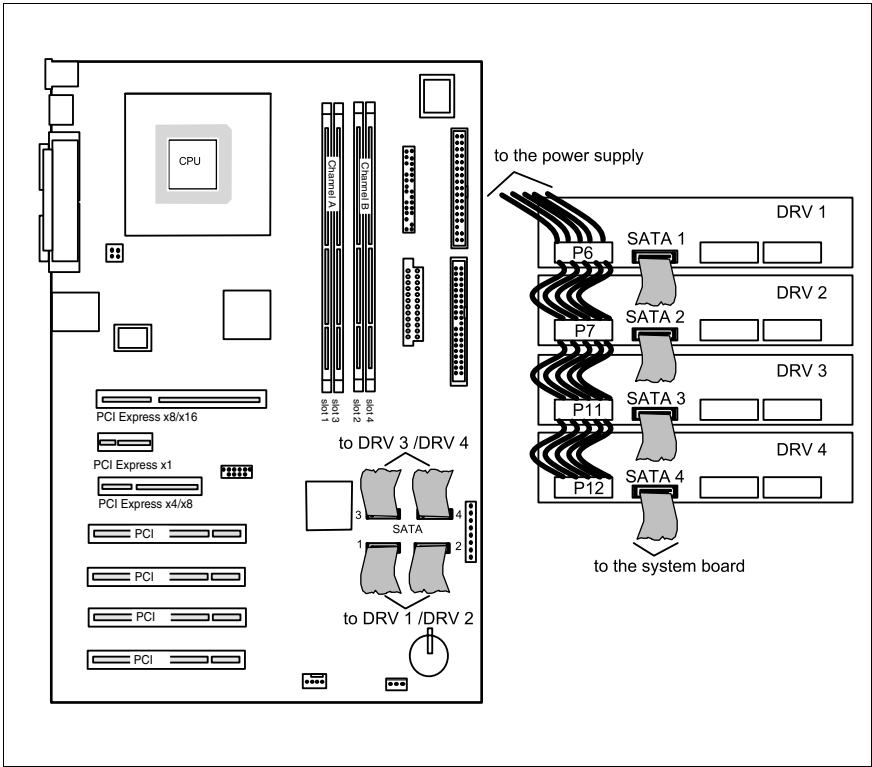

Figure 20: SATA drives: cabling
- ▶ Connect the SATA cable T26139-Y3928-V101 to the SATA interface of the SATA drive (the free cables are already connected to the system board and fixed with cable clips at the housing bottom) (see also figure 20 on page 36).